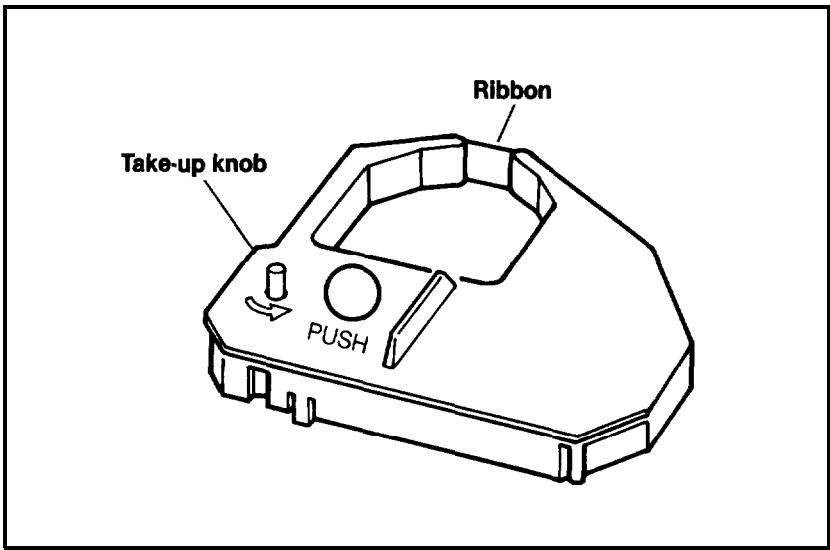

Figure 1-7. Ribbon cartridge
3. Rotate the ribbon cartridge take-up knob in the direction indicated by the arrow next to it so that the ribbon is tight (see Figure 1-7) . Don't worry about wasting the ribbon by turning too much; the ribbon is a continuous loop inside the ribbon cartridge.